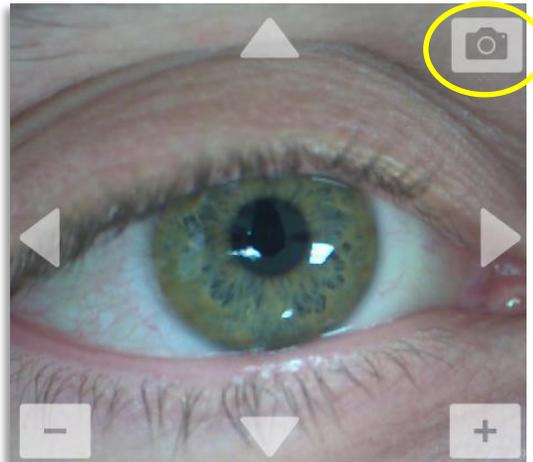

Figure 3-31. Capture d'images
- Pour capturer une image, sélectionnez le bouton de l'appareil photo dans le coin supérieur droit de l'image, comme illustré à la figure 3-31.
On the right, there is a smaller version of the eye image from Figure 3-31, also with a camera icon in the top right corner. At the bottom, there are three buttons: "View 6 photos" (highlighted with a yellow circle), "Export treatment report", and "Done".